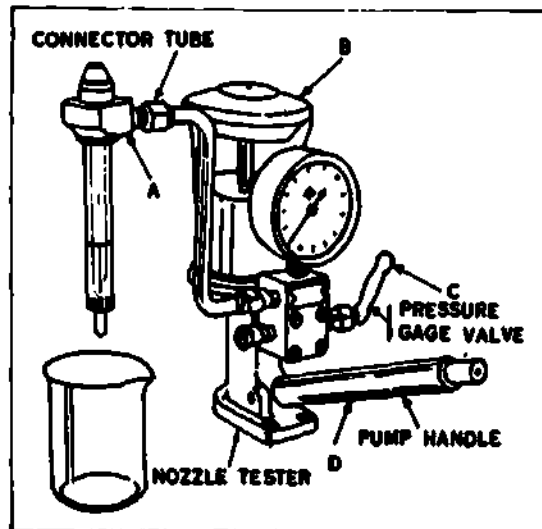

Fig 4-28. Testing fuel injector nozzle and holder assembly.
Mount the injector nozzle and holder assembly (A, fig 4-28) on the nozzle tester using connector tube as shown. Fill reservoir (B) with fuel. Close the pressure gage valve (C). Actuate the pump handle (D) approximately 25 strokes to clear all air from the nozzle and holder assembly.